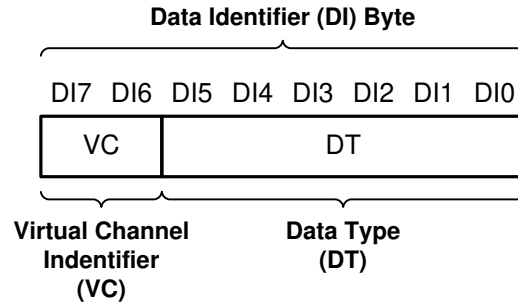

Figure 7-10. CSI-2 Data Identifier Structure
The DS90UB662-Q1 MIPI CSI-2 protocol interface transmits the data identifier byte containing the values for the virtual channel ID (VC) and data type (DT) for the application specific payload data, as shown in Figure 7-10. The virtual channel ID is contained in the 2 MSBs of the data identifier byte and identify the data as directed to one of four virtual channels. The value of the data type is contained in the 6 LSbs of the data identifier byte. When partnered with a DS90UB633A-Q1 serializer, the Data Type is passed through from the received CSI-2 packets. When partnered with a DS90UB633A-Q1 the received RAW mode data is converted to CSI-2 Tx packets with assigned data type and virtual channel ID.